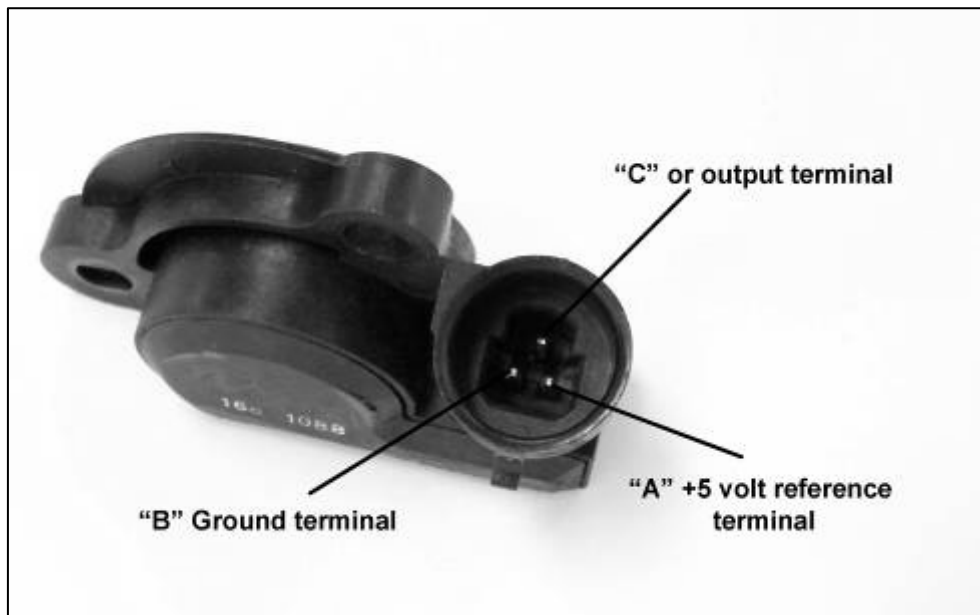

Figure 13
11. A TPS connector with pigtail is included in the kit. Figure 13 shows the pin out for the Throttle Position Sensor. The wire colors on the connector with pigtail are as follows: